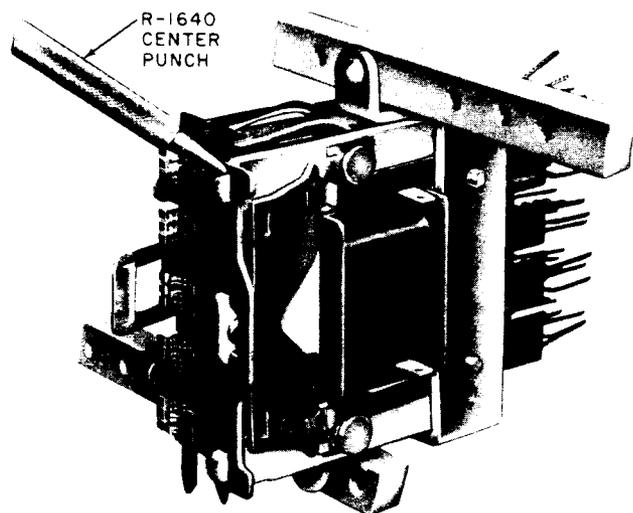

Fig. 10—Staking Core Legs to Secure Core Plate
(4) Remove the bridge studs. Remove the bridge brace, turning it 90 degrees if the position adjacent to the relay is equipped. Remount the top mounting screw. Remove the adapter. Remount the bottom mounting screw. Securely tighten the mounting screws.
(5) Using the R-1640 center punch and the 4-ounce riveting hammer, stake the upper surface of the top and bottom core legs to secure the core plate as shown in Fig. 10.
(6) If any apparatus was mounted at the rear of the frame on a relay mounting screw, remount the apparatus with washer and securely tighten the mounting nut. Reconnect and solder the leads to the coil. Remove the contact
(5) Relieve the pressure of the core plate replacer spindle on the bridge bar by backing off the spindle slightly. Loosen the thumb nuts on the bridge and remove the bar. Loosen the thumb nuts on the core plate replacer and remove the replacer.
(6) Loosen the thumb nuts on the brace. Remove the bottom bridge stud and remount the bottom mounting screw but do not tighten it. While supporting the brace, remove the upper bridge stud and remount and partially tighten the upper mounting screw. Remove the bridge brace, turning it 90 degrees if the position adjacent to the relay is equipped. If the relays were shifted, reposition them making sure that clearance requirements are met. Securely tighten the relay mounting screws.
(7) Using the R-1640 center punch and the 4-ounce riveting hammer, stake the upper surface of the top and bottom core legs to secure the core plate as shown in Fig. 10.
(8) Reconnect and solder the leads to the coil. Remove the contact separators and remount the covers in accordance with 3.21.